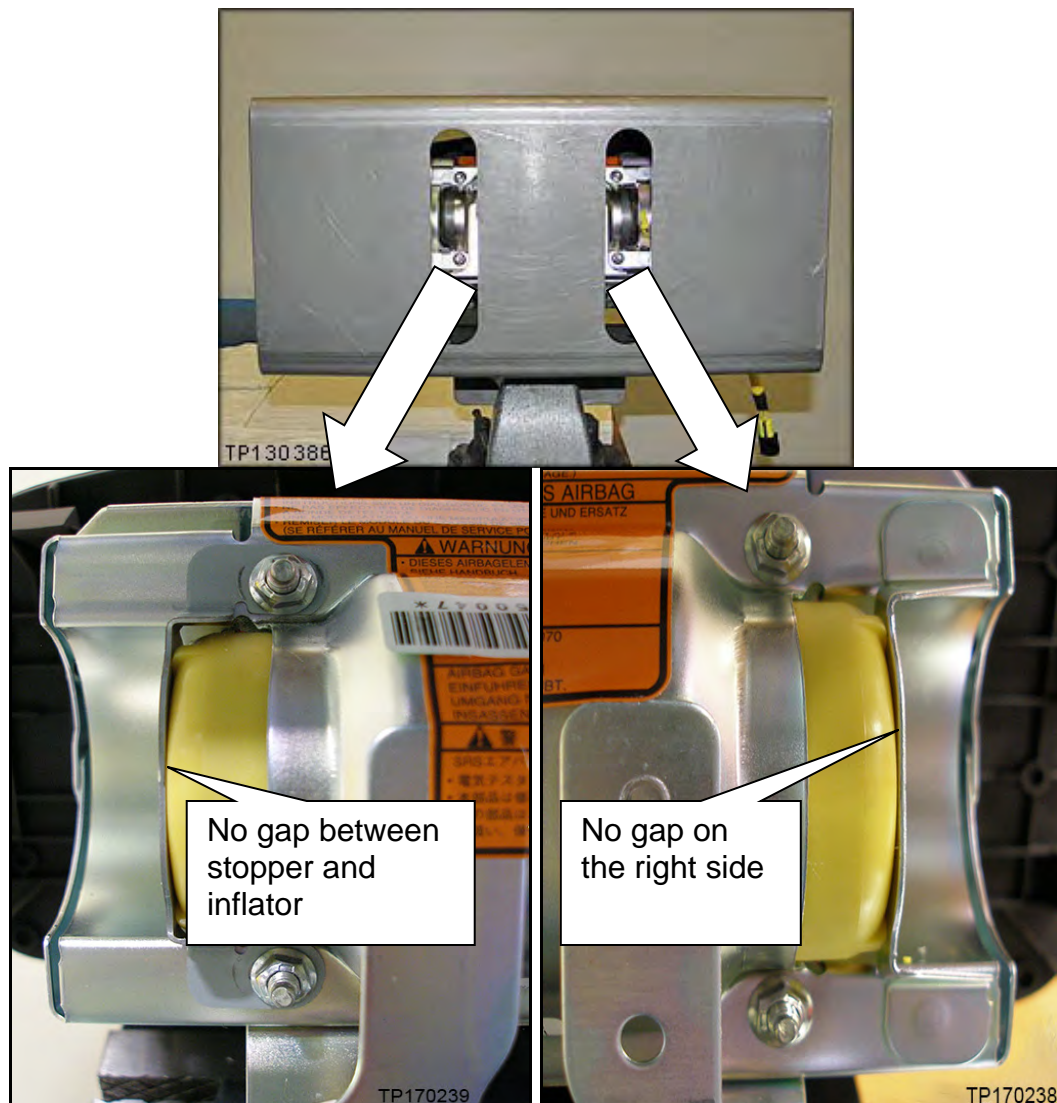

Figure 24
32. Install the four (4) inflator securing nuts finger tight (see Figure 24).
33. Make sure the inflator is pushed all the way into its housing – no gap on the right side (see Figure 24).
34. Make sure there is no gap between the inflator stopper and the inflator (see Figure 24).